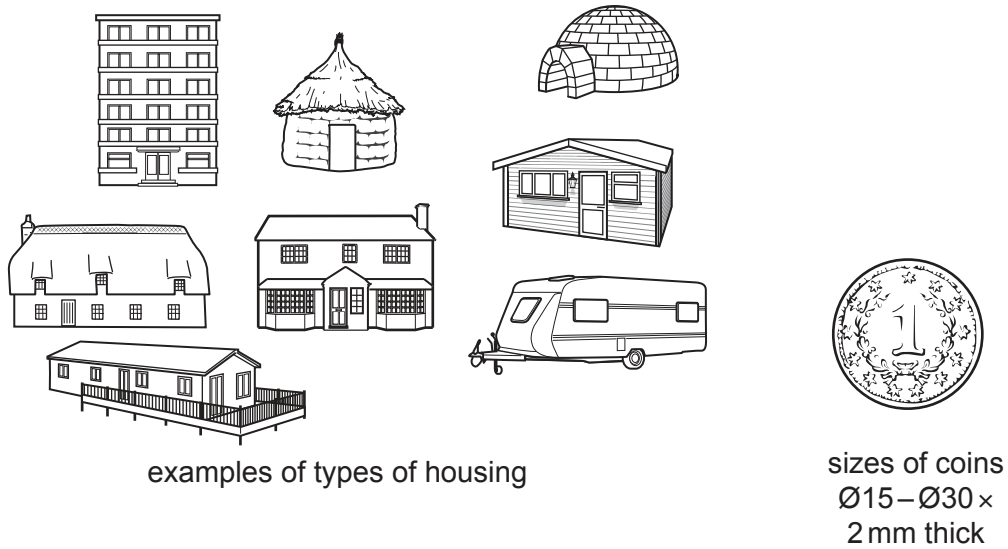

Fig. 8.1
- 8 Fig. 8.1 shows details of the design requirements for a collection box for a charity for the homeless called 'Haven'.